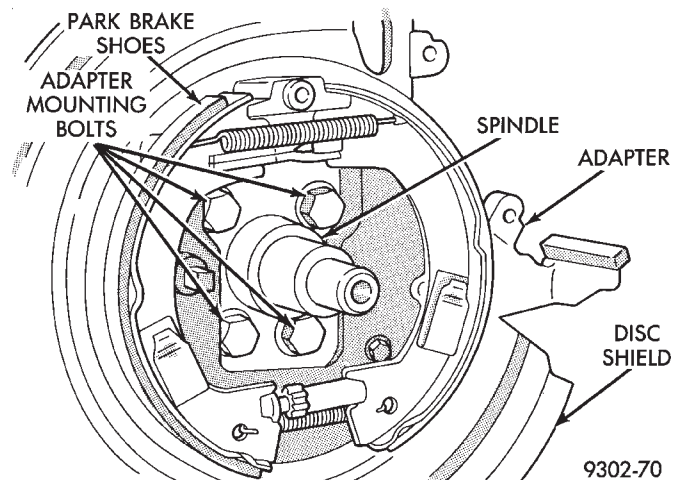

Fig. 18 Disc Brake Adapter Mounting
(6) On vehicles equipped with rear disc brakes. Install the disc brake adapter back on the spindle (Fig. 18). Install the 4 bolts attaching the disc brake
adapter to the rear spindle (Fig. 18). Torque the disc brake adapter to spindle mounting bolts to 115 N•m (85 ft. lbs.).